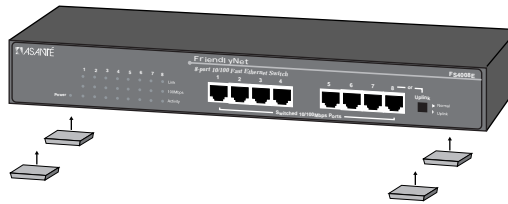

Figure 2-9 Desktop mounting
- 1** Attach the four rubber feet (supplied) to the bottom of each corner on the Switch. See Figure 2-9.